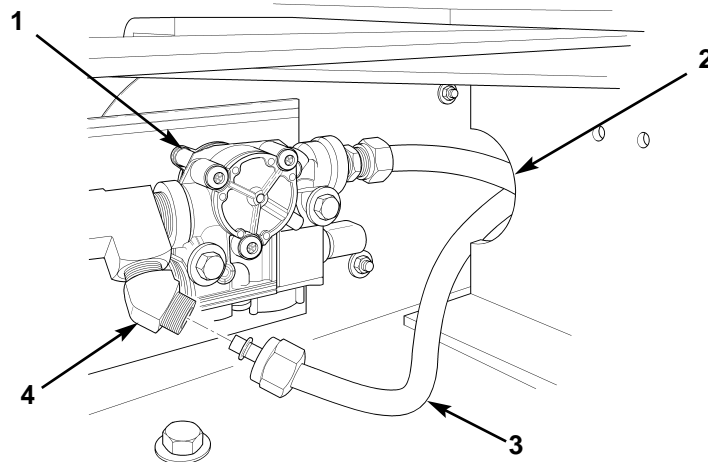

Figure 52. Connecting Tube to Left-Rear Modulator.
26. Route end of tube (figure 52, item 3) through opening in crossmember (figure 52, item 2), and connect tube (figure 52, item 3) to elbow (figure 52, item 4) on left-rear modulator (figure 52, item 1).